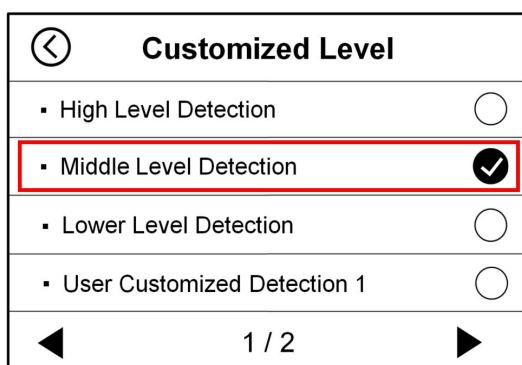
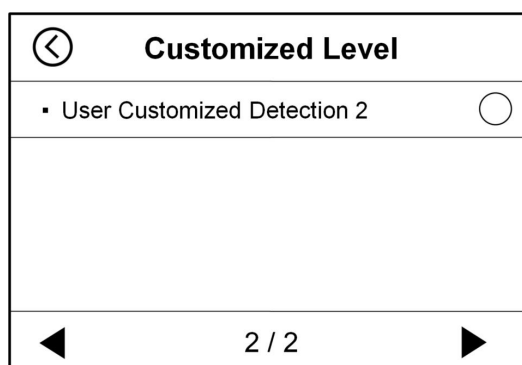

Figure 54
Figure 55
3) Take USD as an example, touch “**USD**” to enter the interface of US dollars counterfeit detection setting, as shown in the following Figure 54 and Figure 55: